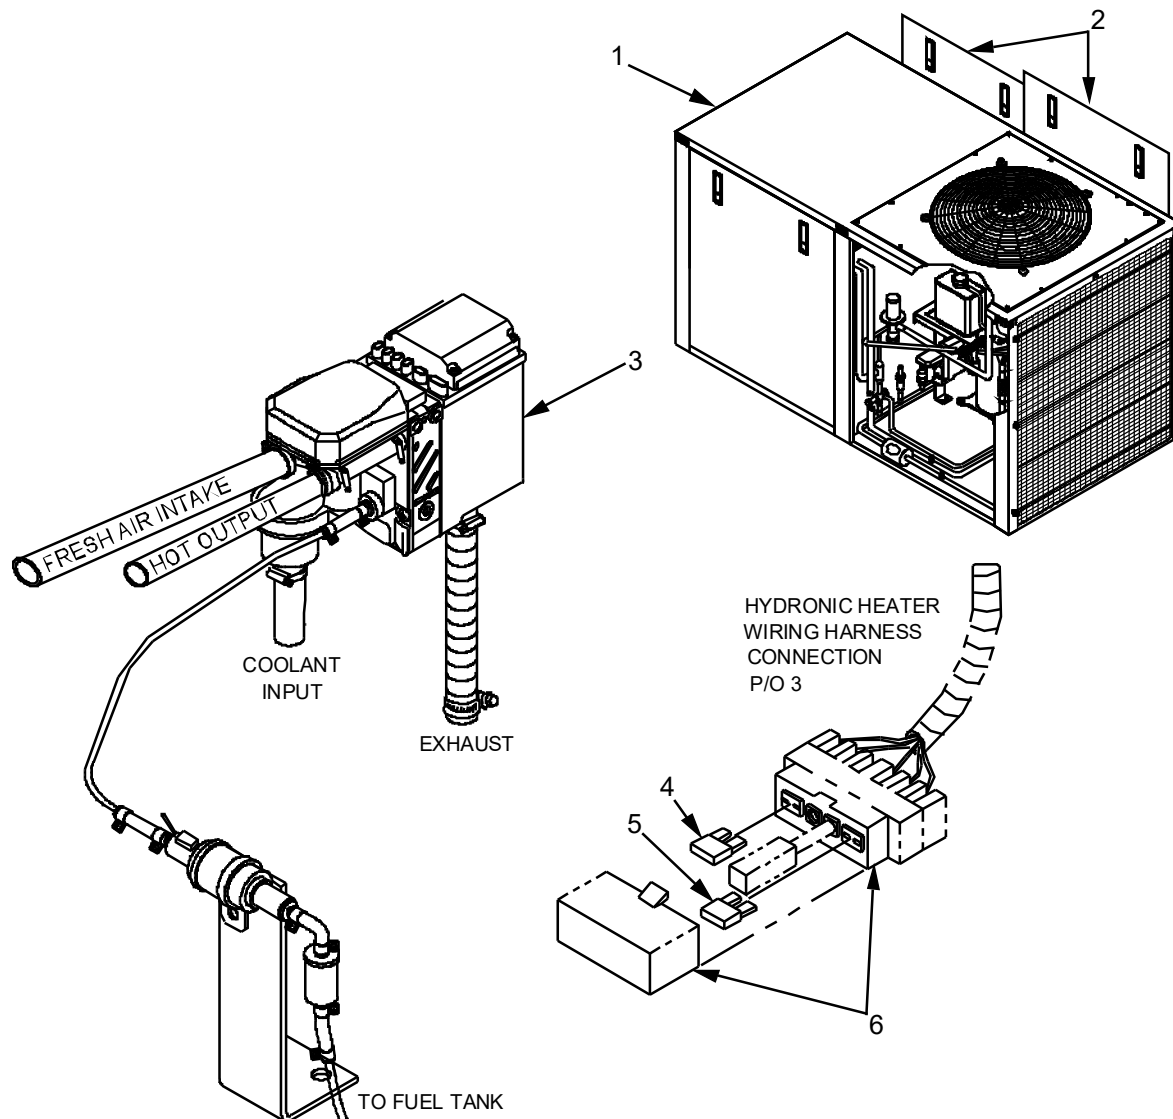

Figure 4. Auxiliary Heater Fuse Replace.
1. Verify that ECU (Figure 4, Item 1) has been shut down in accordance with ECU Shut Down Procedure (WP 0005)
2. Remove front access door (Figure 4, Item 2) on ECU and set aside.
3. Locate fuse holder (Figure 4, Item 6) on Auxiliary heater (Figure 4, Item 3) and open cover.
4. Identify and remove bad fuse (Figure 4, Items 4 or 5).
1. Replace fuse (Figure 4, Items 4 or 5) with proper type and value.
2. Close cover on fuse holder (Figure 4, Item 6).
3. Install access door (Figure 4, Item 2).